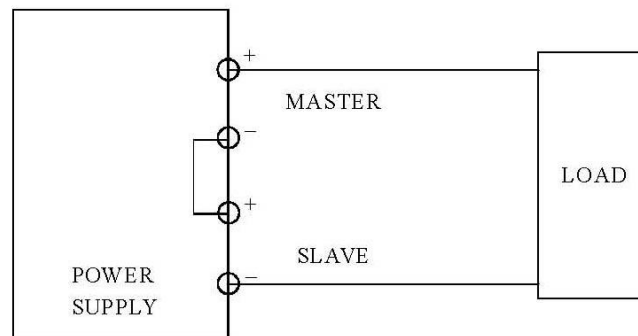

Fig 5-1 Series connected power supply
Pressing the left Tracking button in (15), the 2 power supplies are series connected. The connection between the 2 power supplies is internal. The Master (the right side power supply) Voltage control varies both supplies simultaneously in a one to one tracking relationship. When the master and slave are in the series mode, the total sum of the voltage is twice the reading of the Master supply's voltmeter and the current supplied to the load is equal to what is displayed on the Master or Slave Ammeter. A load connected to the power supply connected as a series supply is shown in Fig 5-1